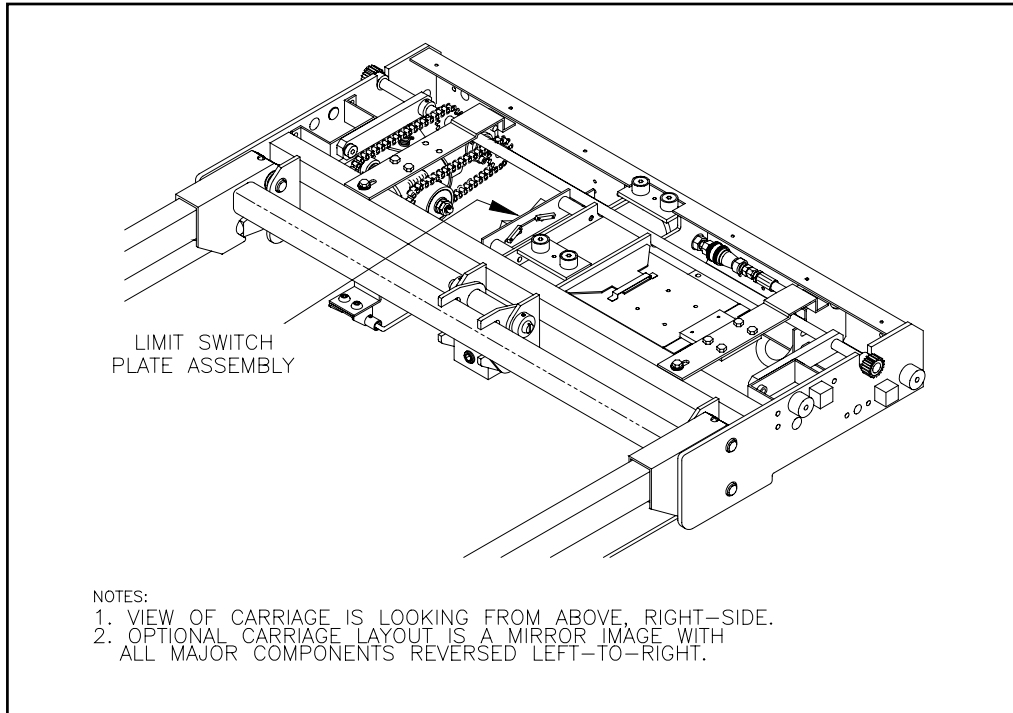

FIGURE 2-3: LIMIT SWITCH PLATE ASSEMBLY LOCATION
- u. Refer to **Figures 2-3 and 2-4**. At the switch plate assembly, use a pencil to mark the position of the vertical travel limit (TOP) switch. Loosen the two mounting screws only enough to allow the switch to be adjusted left or right.